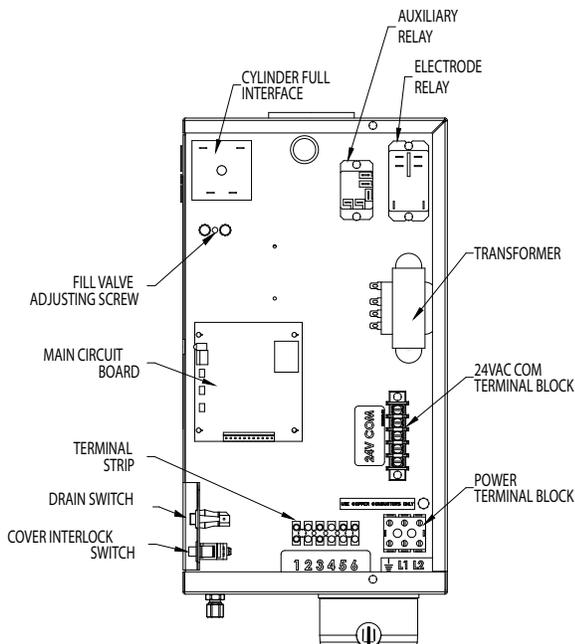
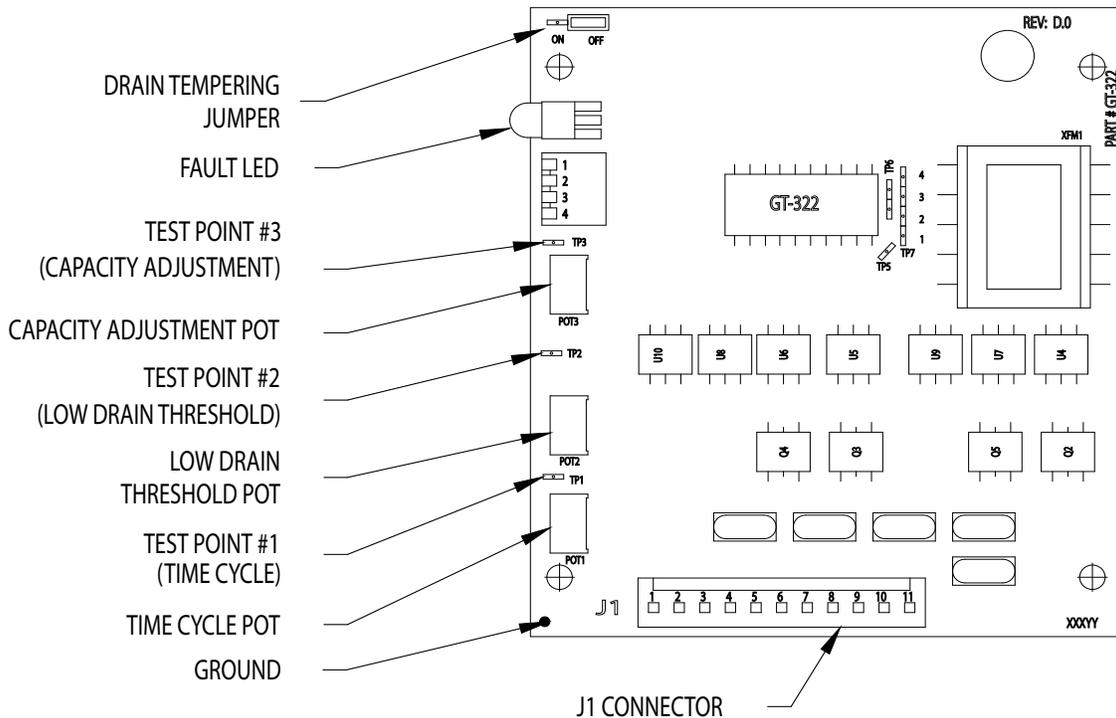

Figure 11 (View in from Right Side of Unit)
Figure 13
10. All units are equipped with a drain tempering feature which mixes cold fill water with the hot drain water to protect drain piping. **Unit is factory set with drain tempering inactive. To activate, move drain tempering jumper to ON position from circuit board.** (See Figure 13.) Depending on your fill water pressure, some adjustment of the fill metering valve may be necessary to ensure drain water of less than 140°F. (See Figure 11.)
Each circuit board (see Figure 13) features three test points to aid in the troubleshooting process. Each of these test points works on a 0-5 VDC scale. "0 VDC" = 0%. "5 VDC" = 100%. All readings are between the test point and ground.
Check water supply. If it is softened, increase the Low Drain Threshold Pot (POT 2) up to XX%. (See Figure 13.)
Unit filling slower or at the same rate as the water is boiling, causing over concentration and foaming. Check restriction in fill line. Adjust the metering fill valve to allow greater flow of water. (See Figure 11.)